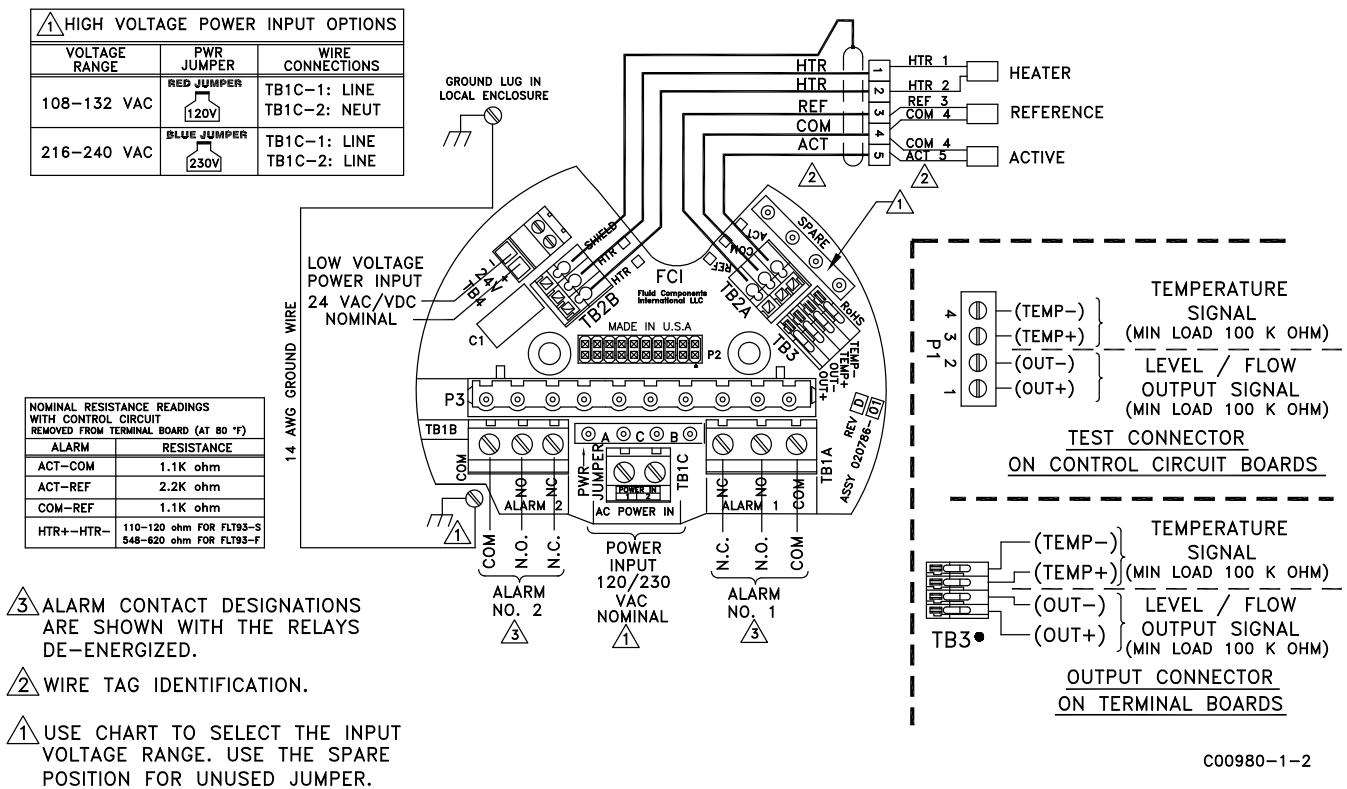

Figure 2-6 Remote Wiring Diagram
4. Run a five-conductor, shielded cable from the local enclosure to the remote enclosure. Use Table 2-1 to determine which wire gauge to use (wire between the local and remote enclosures according to Figure 2-6). It is recommended to include a 14AWG wire between the two enclosures connected to the grounding lugs and then to earth ground close to the control circuit housing, with the connection not to exceed 1 ohm.
5. When connecting the relay wiring, do so with complete understanding of what the process requires of the instrument. The instrument has dual SPDT or single DPDT relay output contacts dependent on the jumper configuration for each alarm switch point. For the relay terminals and logic, refer to Figure 2-6. Also refer to Table 3-5 and Table 3-6 in Chapter 3 - Operation. Relay contacts are shown with the relays de-energized. Wire in accordance with the system requirements.